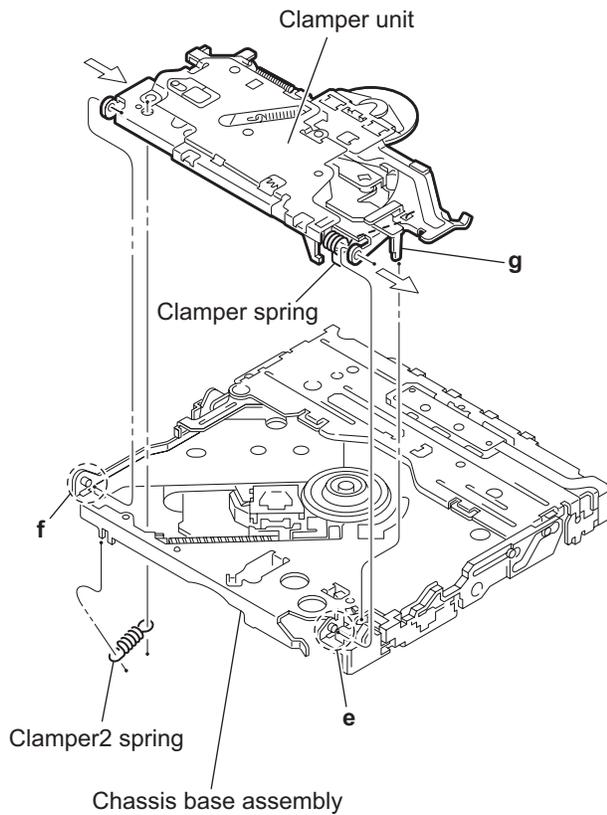

Fig.5
### 3.4.4 Removing the clamper unit (See Figs.5 to 7)
- (1) Remove the clamper2 spring on the bottom of the mechanism section. (See Figs.5.and 6.)
- (3) Move the clamper unit in the direction of the arrow and turn. Release the two joints **e** and **f**, then remove the clamper unit upward. (See Fig.5.)
### 3.4.5 Reattaching the clamber unit (See Figs.5 to 9)
- (2) Move the clamber unit to set the side joints **e** and **f** to each boss of the chassis base assembly. Make sure that part **g** is inserted to the notch of the chassis base assembly. (See Figs.5 and 9.)
- (4) Attach the clamber2 spring to the chassis base assembly. (See Figs.5 and 6.)